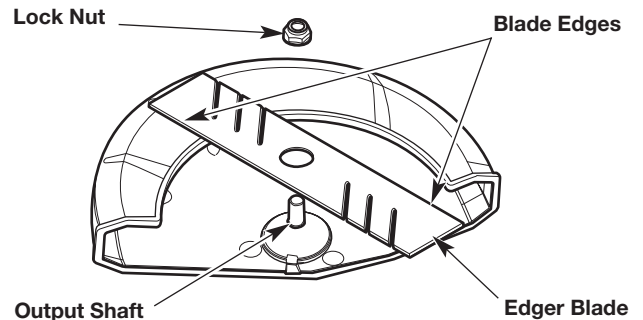

Fig. 13
4. Remove the Allen wrench, wrench, lock nut and edger blade (Fig. 13). Keep the lock nut for installing the new edger blade.
1. Install the new edger blade and lock nut onto the output shaft (Fig. 13). Make sure the blade edges are facing the correct direction (Fig. 13). The unit will not function properly if the edger blade is facing the wrong direction.